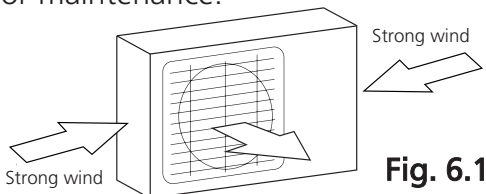

Fig. 6.1
- ❑ If the unit placement is exposed to strong winds (for example: near a seaside), the unit must be placed against the wall to shelter it from the wind. If necessary, use an enclosure or other protection. (See Fig. 6.1 & 6.2)